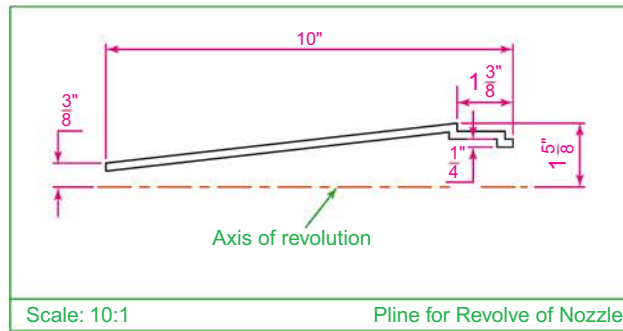

Fig. 9.46 Exercise 5
5. Fig. 9.46 shows the outline from which a solid of revolution can be constructed. Use the **Revolve** tool from the **Home/Create** panel to construct the solid of revolution.